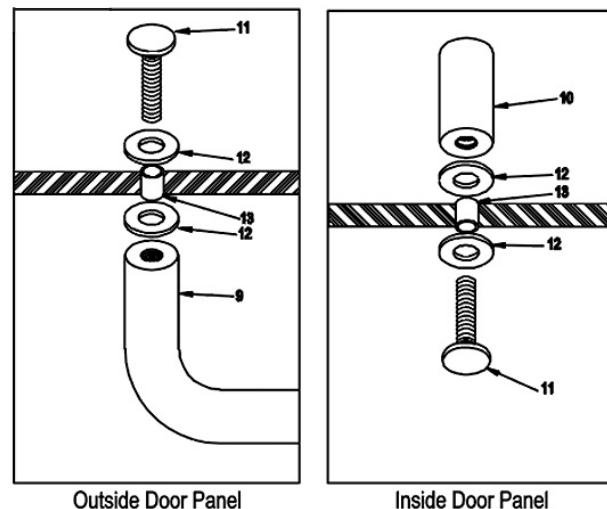

FIGURE 3
10. Close panels and adjust to align the vertical edge of panels 180 degree post. Using a 1/4" box-end wrench, loosen the screws on the rollers, but don't remove completely. When screws are loose, adjust panel by sliding the screw is loose be sure to support panel so it does not fall and break. Adjust inside panel by sliding the screw in the slot. NOTE: When screws are loose be sure to support panel so it does not fall and break. Adjust the inside slider as low as possible to reduce the gap between bottom of slider and sill taking care that the glass does not drag on the sill (6) or center guide (7). Adjust for bowed glass by using the slotted hole in the jamb. Secure bumpers (4) to the jambs using 6-32 x 1/2" screws (5).
11. To install towel bar (9), place nylon towel bar insert sleeves (13) into holes in the glass (17). Next hold the tubular towel bar (9) against the hole in the glass with the nylon towel bar/pull screw (12) between the glass and the towel bar. Place a nylon towel bar/pull washer on the towel bar/pull screw (11) and secure towel bar in place on both ends. Install the pull the same way the towel bar was installed. Use hole in fastener to tighten (See Figure 3).